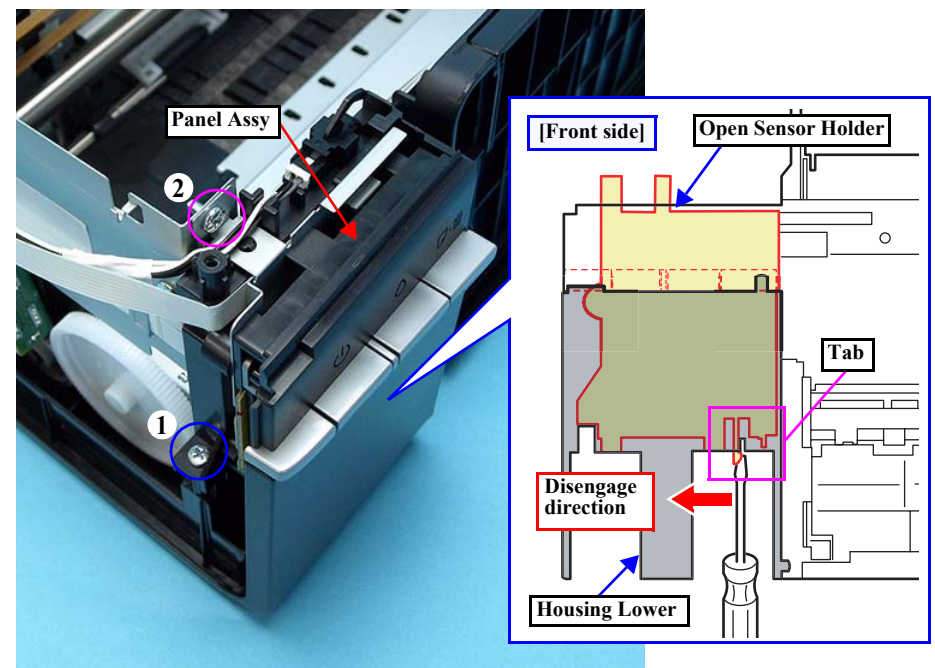
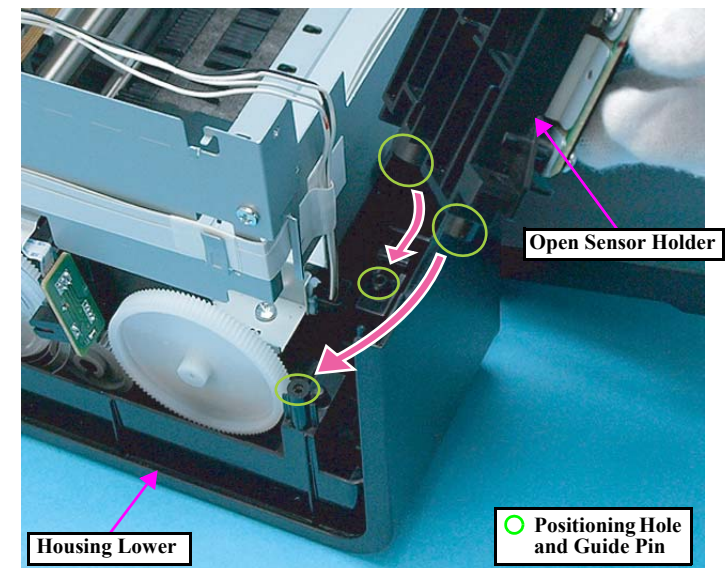

Figure 1-30. Removing the Panel Assy (2)
Figure 1-33. Installing the Panel Assy (2)
When removing the screw (2) shown in Fig.1-30, be careful not to damage the Cover Open Sensor Cable and CDR Sensor Cable.
- Tighten the screws in the order given in Fig.1-30.
- As shown in Fig.1-30 (p.30) and Fig.1-33, match the positioning holes of the Open Sensor Holder with the guide pins of the Housing Lower, and secure the Open Sensor Holder with the tab.